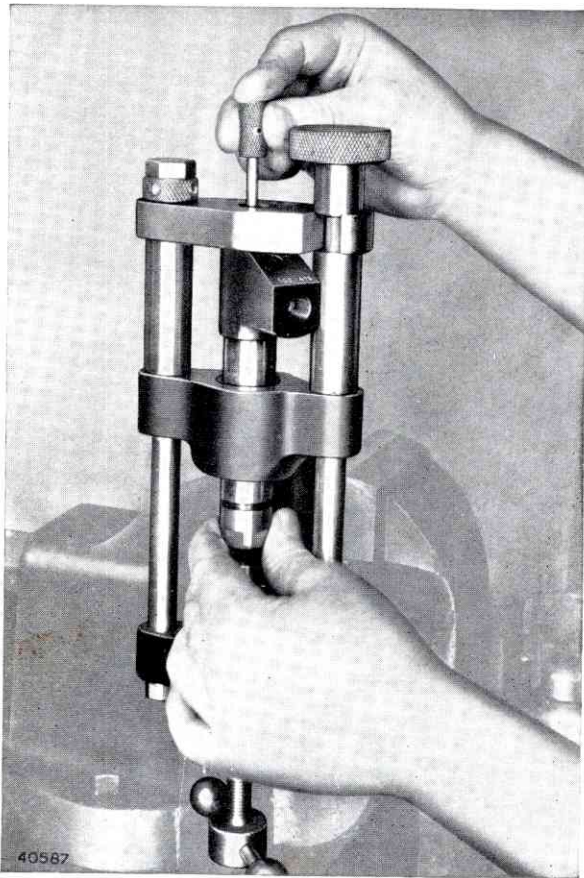

FIG. 71. CENTRALISING THE NEEDLE VALVE AND NOZZLE
5. Rotate the nozzle slowly and carefully with the fingers, at the same time using the screwed rod to bounce the needle valve rapidly on the nozzle seat, Fig. 71.